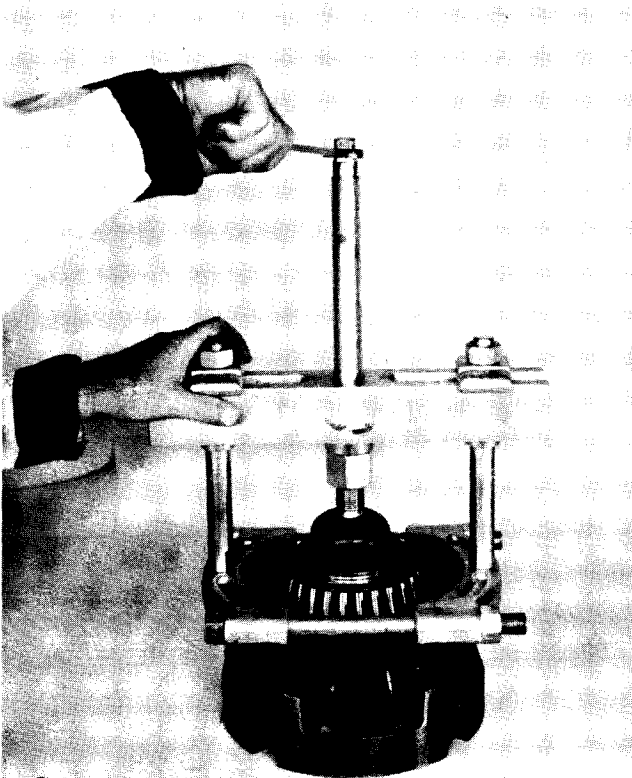

FIG. 81
3. If replacement is required, remove differential bearing cones with a suitable puller (Fig. 81).